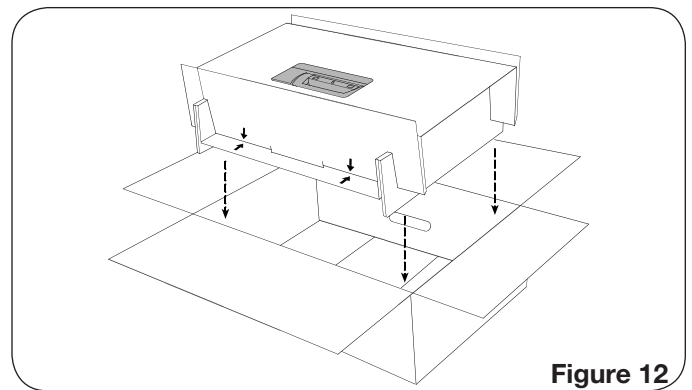

Figure 12
12. Place cartridge/insert assembly into box (Figure 12).